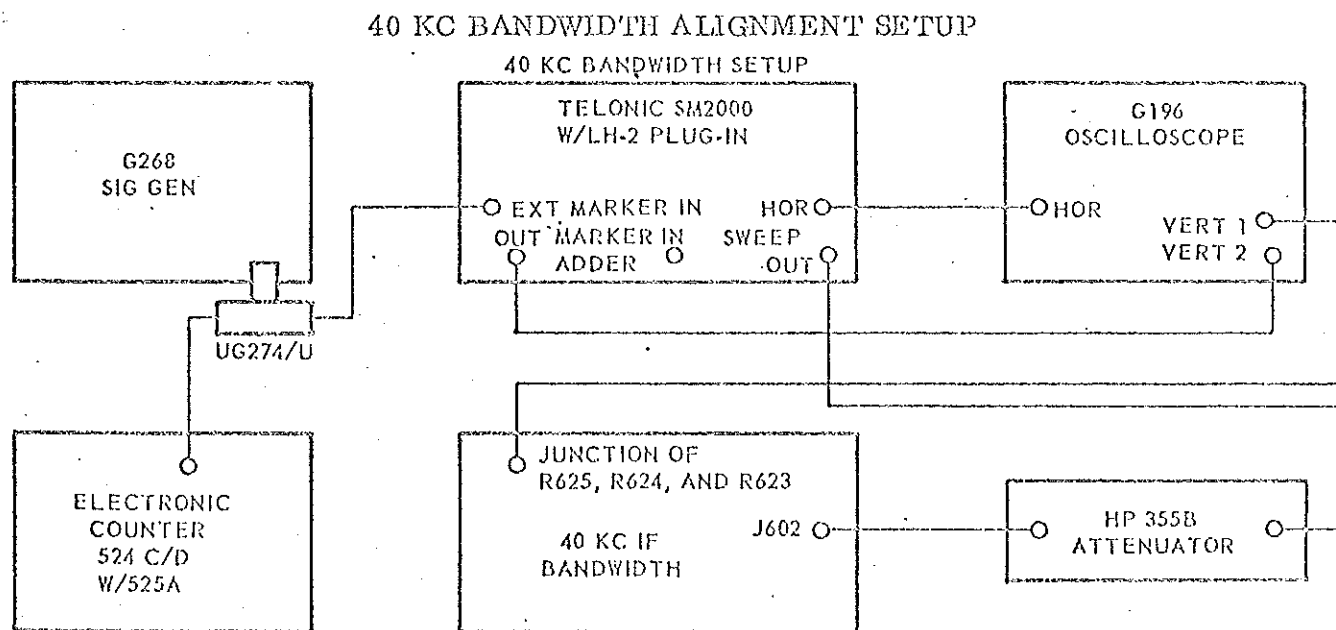

Figure 5-3
- b. Connect test equipment as shown in figure 5-3, except transfer connection shown at J602 to V606, pin 4, and transfer connection shown at junction of L607, R625, R624, and R623 to FM output (junction CR602 and C636).
- a. Connect test equipment as shown in figure 5-3, except transfer connection shown at J602 to V605, pin 4.
- a. Connect test equipment as shown in figure 5-3, except connection shown at J601 should be transferred to V603, pin 4.
- a. Connect test equipment as shown in figure 5-3.
- a. Connect test equipment as shown in figure 5-3, except transfer connection shown at J602 to TP402 (located in low band 60-21.4-mc converter). Transfer connection shown at junction of L607, R625, R624, and R623 to junction of K103, R108, and C104.